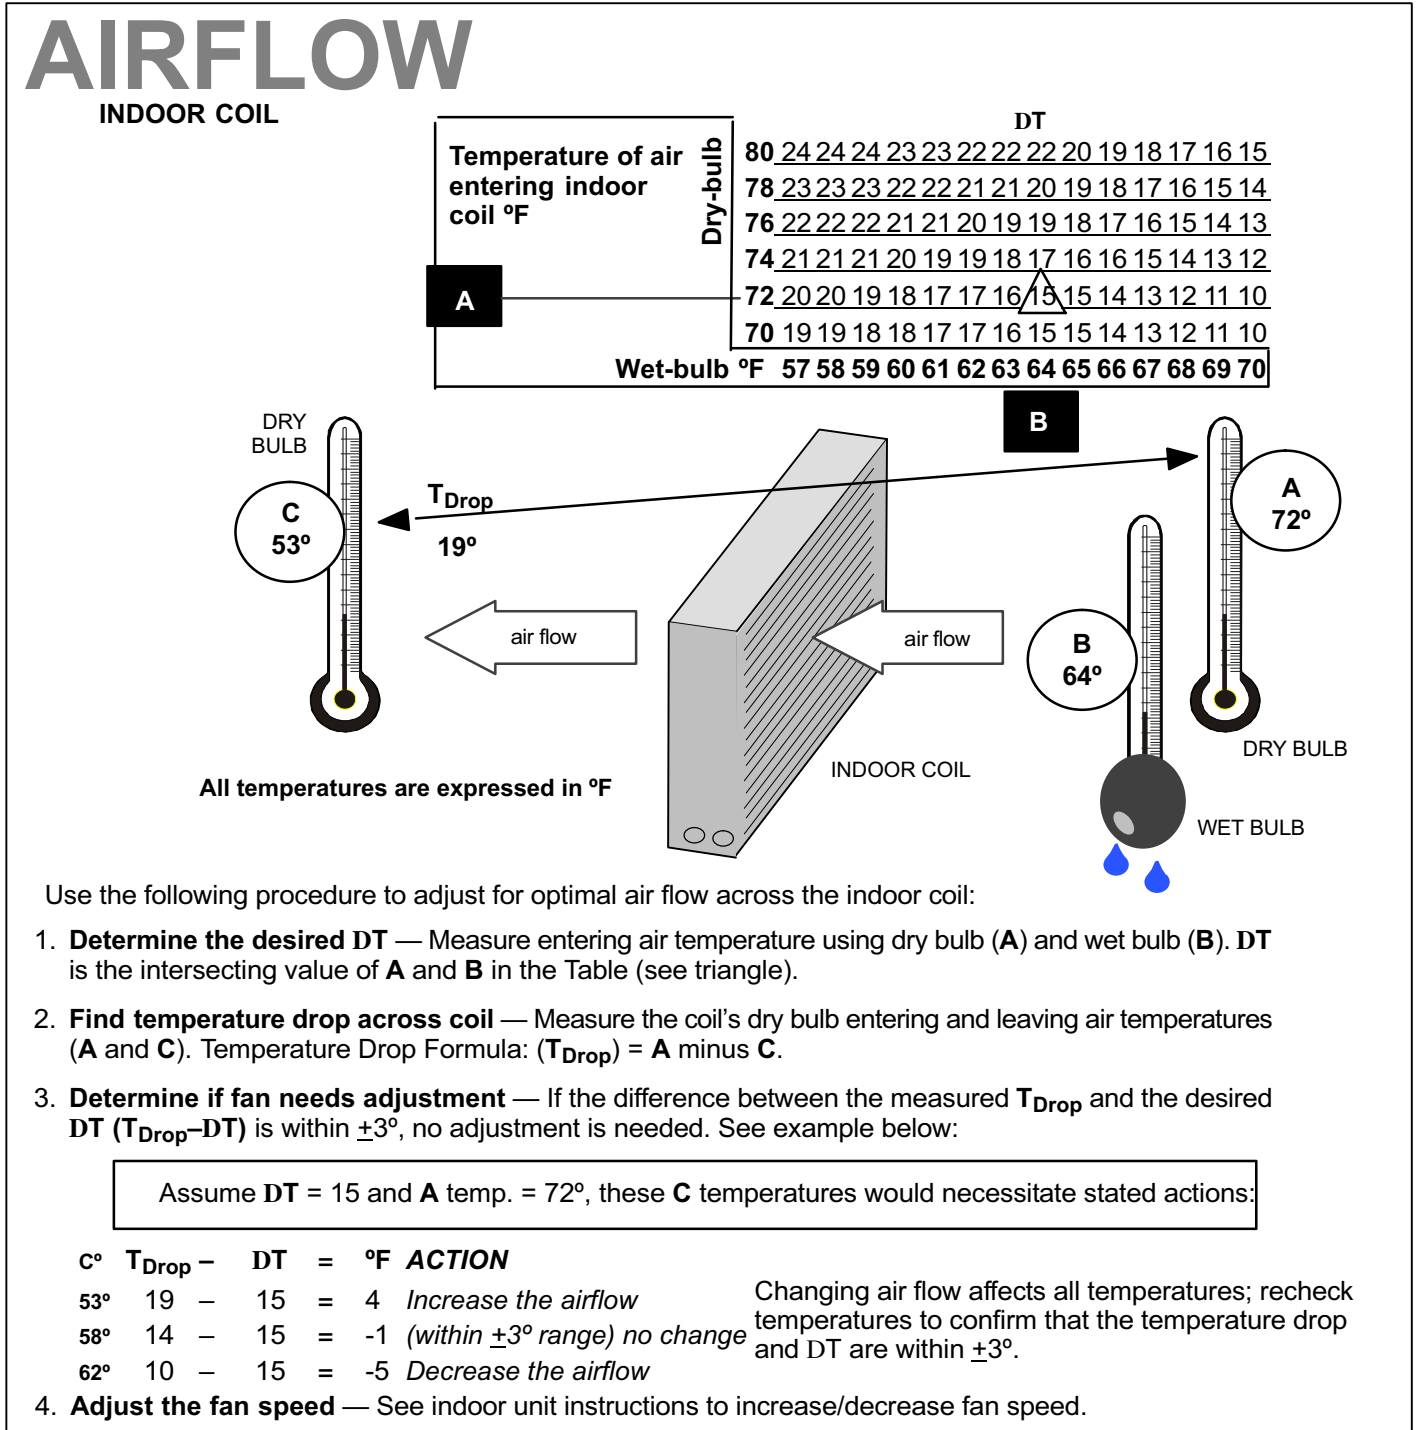

Figure 14. Checking Indoor Airflow over Evaporator Coil using Delta-T Chart
Check airflow using the Delta-T (DT) process using the illustration in Figure 14.
- 1 Check the airflow as illustrated in Figure 14 to be sure the indoor airflow is as required. (Make any air flow adjustments before continuing with the following procedure.)